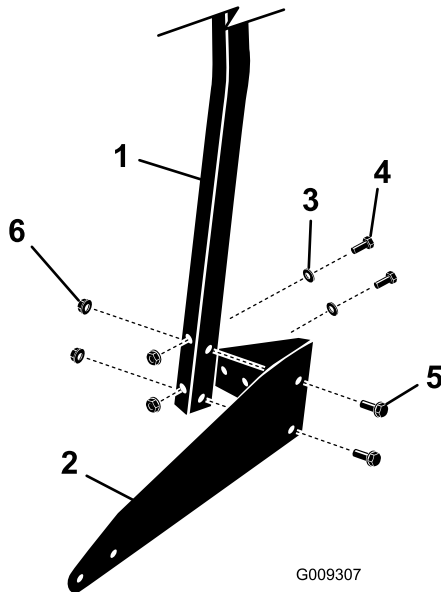

Figure 2
- A. Loosely install the support brackets to the rear support tube using 4 bolts (5/16 x 2-3/4 inches), 4 bolts (5/16 x 1-3/4 inches), 4 flat washers (5/16 inch), and 8 flange nuts (5/16 inch) as shown in Figure 2.